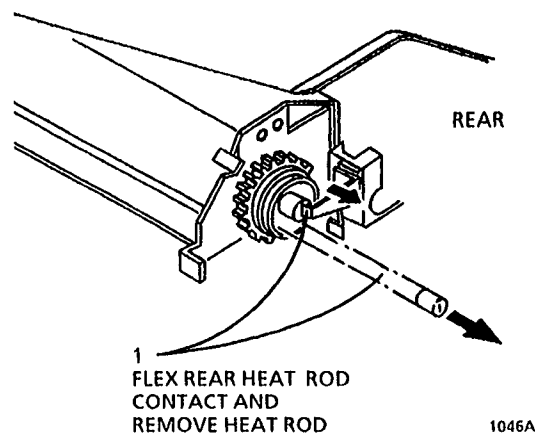

Figure 1. Removing the Heat Rod
2. (Figure 1): Remove the heat rod.